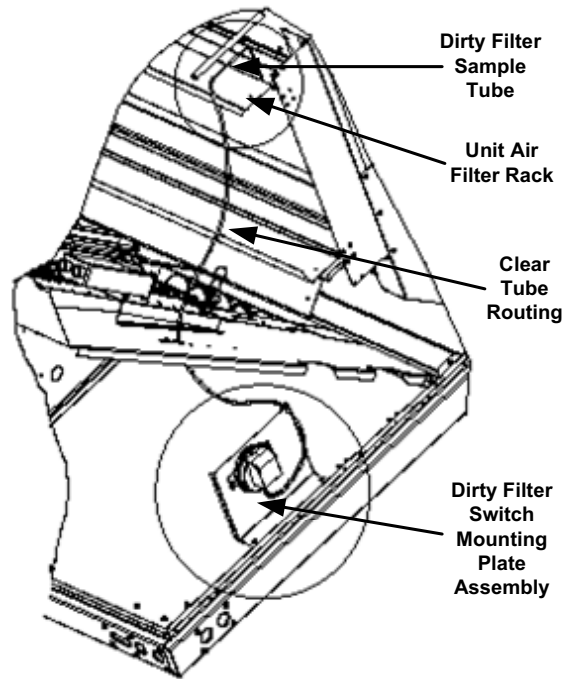

FIGURE 3
4. Attach the Dirty Filter Switch and mounting plate assembly to the base as shown in Figure 3.
5. Place the dirty filter sample tube over the air filter rack. (See Figure 3)
7. Route the tubing through the economizer panel as shown in Figure 3.